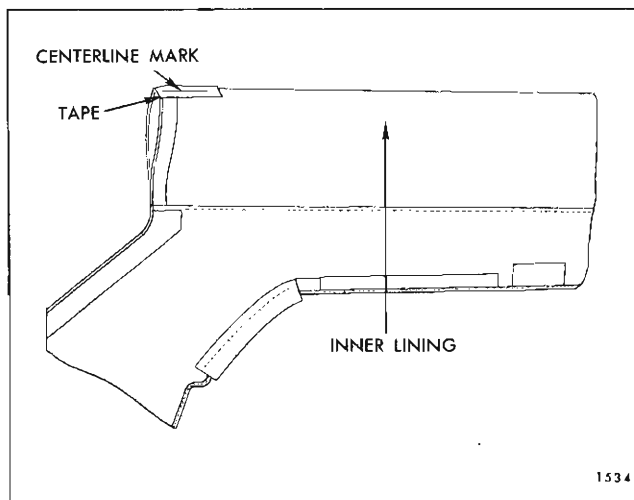

Fig. 2-I-19—Marking Folding Top Material
23. Fold new top material in half so that inner lining of top material is exposed (Fig. 2I19). Install a 6" piece of tape on inner surface at centerline fold of new top material (Fig. 2I19). Using a pencil,